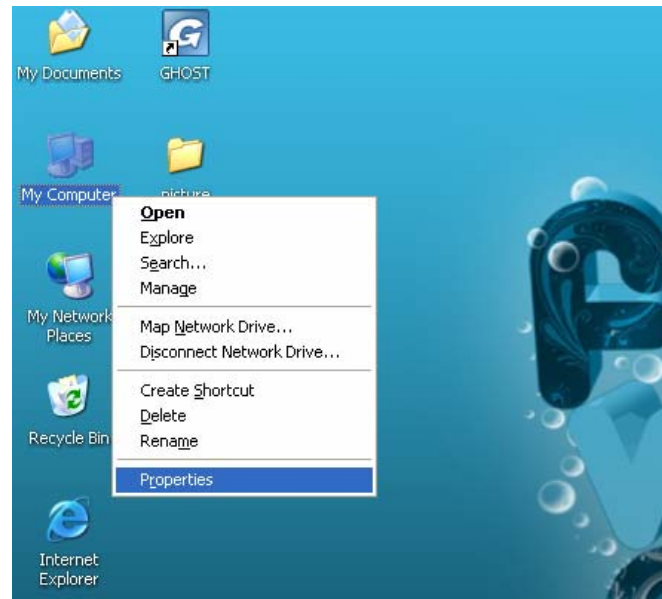

Figure 1
(1). Click "My Computer" right key of mouse, and click "Properties" left key on the desk, as shown in figure 1.